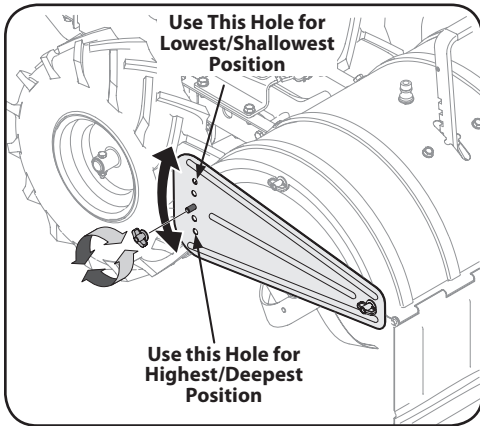

Figure 4-4
4. When breaking up sod and for shallow cultivation, use the second slot from the top. Place the side shields in their lowest position. See Figure 4-4.